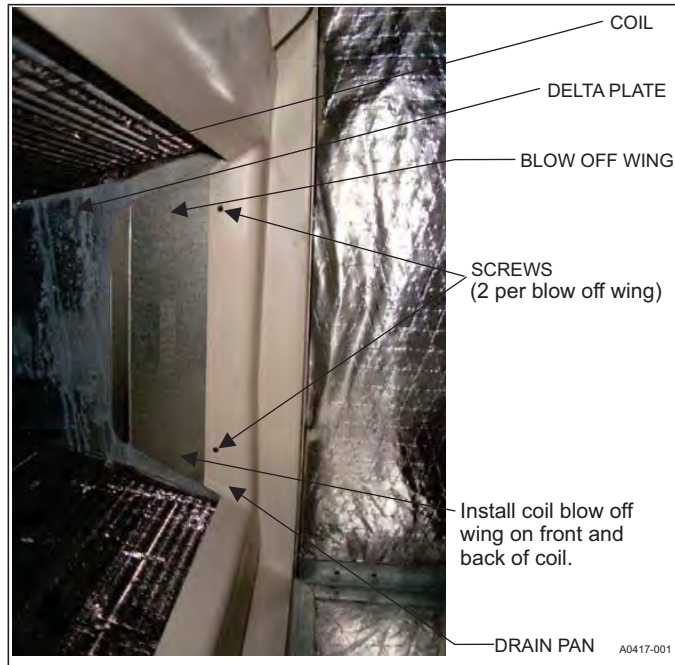

FIGURE 5: Coil Blow Off Wing Installation
8. For horizontal right applications, the front and back coil blow off wings must be installed (blow off wings shipped in loose parts bag). Locate 4 screws securing coil delta plates to coil drain pan. Loosen the screws. Slide each coil blow off wing between the drain pan and the coil delta plate. Tighten screws to secure coil blow off wings. Refer to Figure 5.